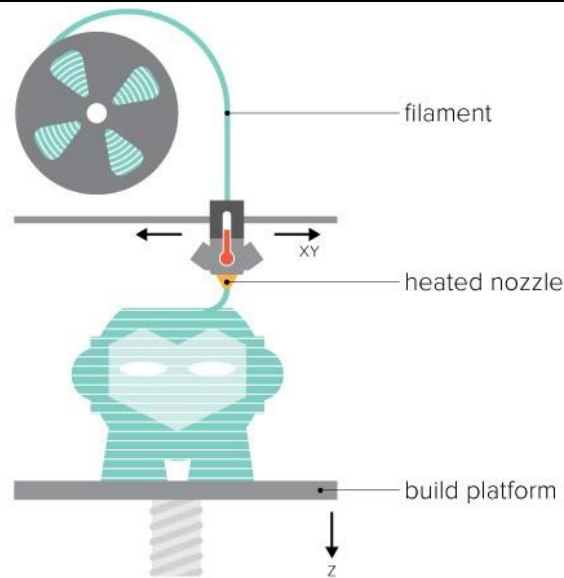

Figure 1: FDM concept
- 1) Material Extrusion: This is by far the most used technology, mainly because the low-end, home 3D-printers also belong to this category. Both Cr3do and Materialise extensively use the (high-end) FDM (Fused Deposition Modeling) machines from Stratasys in this category. The use case on build-time estimation is on this technology. Figure 1 shows how FDM works.